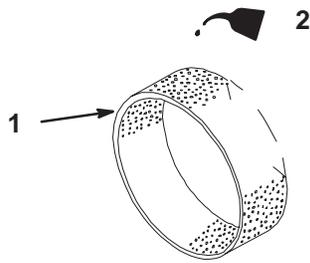

Figure 18
3. Put one or two ounces of oil on the element (Fig. 18). Squeeze the element to distribute the oil.